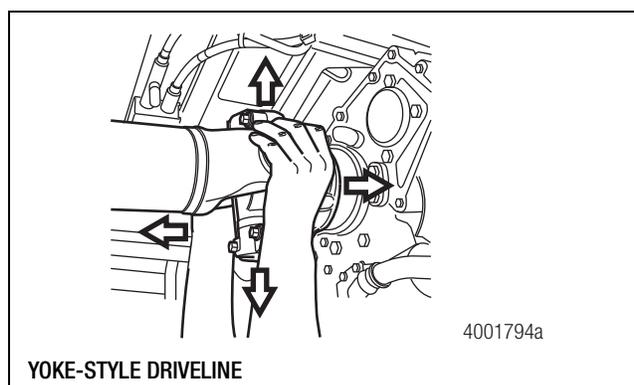
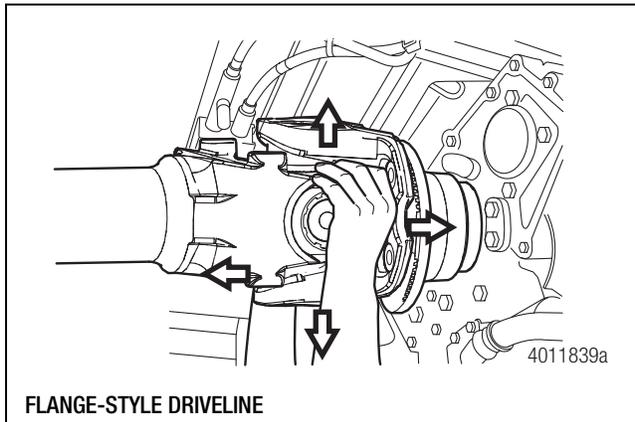

Figure 3.4
Figure 3.5
- B. Try to move the yoke or flange UP-AND-DOWN and SIDE-TO-SIDE by applying at least 50 pounds (22.7 kg) of force to the driveline near the universal joints. Figure 3.4 and Figure 3.5.